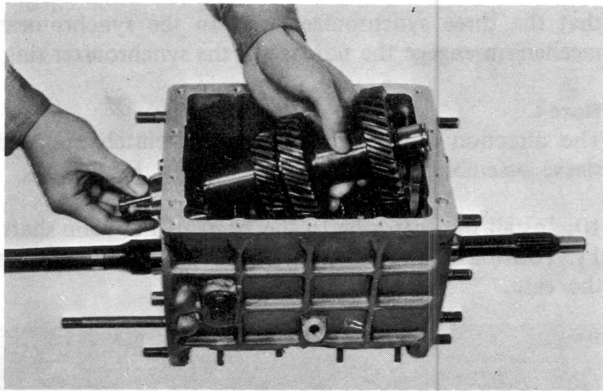

Fig. 7-22 Installing counter shaft gear
16. Install the counter shaft gear in the case, making sure that the counter shaft gear engage each gear of the main shaft assembly, as shown in Fig. 7-22.